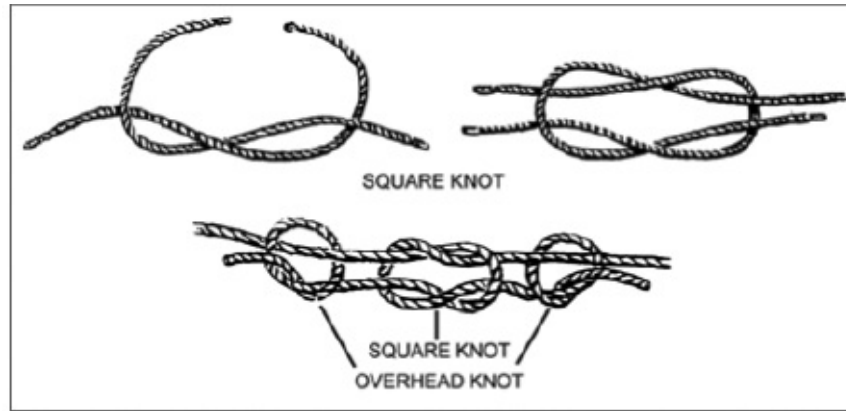

Figure 5-5. Square knot
- a. **Square Knot.** This joins two ropes of equal diameter (Figure 5-5). It has two interlocking bights; the running ends exit on the same side of the standing portion of the rope. Each tail is secured with an overhand knot on the standing end. When you dress the knot, leave at least a 4-inch tail on the working end.